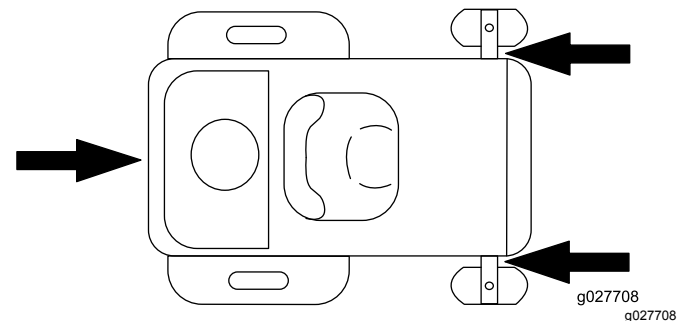

Figure 28
5. Tie down the machine near the front caster wheels and the rear bumper (Figure 28).